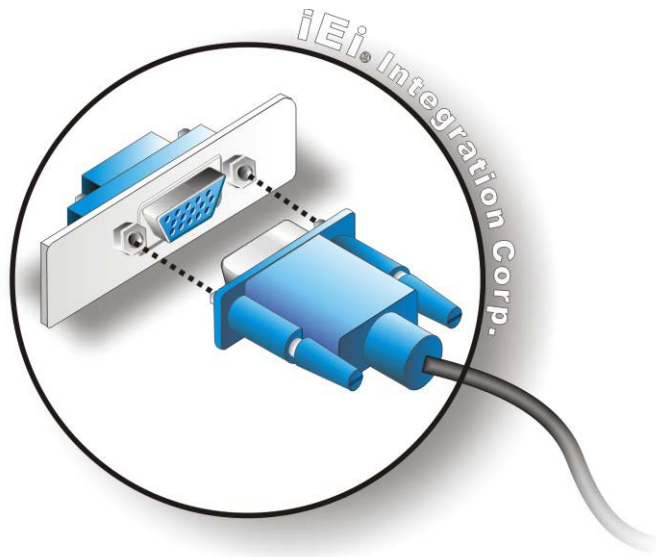

Figure 4-9: VGA Connector
- Step 3: Insert the VGA connector.** Once the connectors are properly aligned with the insert the male connector from the VGA screen into the female connector on the KINO-SE-i2. See **Figure 4-9**.